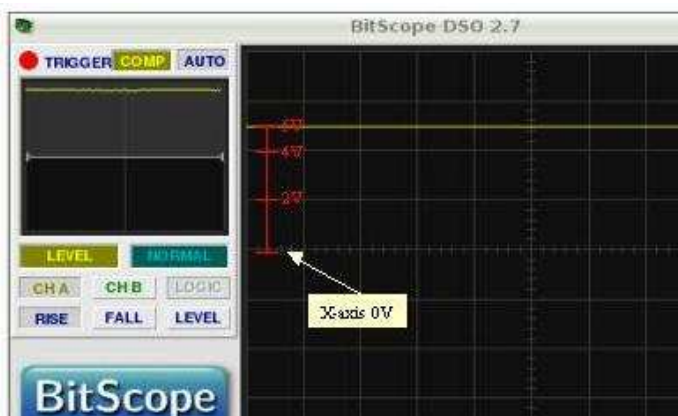

Fig. 4: Measuring +5V between the Raspberry Pi GPIO pins 2 and 6.
Look at the main screen of the BitScope DSO (1). The x-axis is the line in the middle and has small vertical lines to sub-divide each square. This is our 0V line. But our yellow beam is in the middle of the third square above the x-axis. Because we know there is a voltage of 5V between pin 2 (the plus pole) and pin 6 (the minus pole), and we set the channel control to 2V per Div, so the horizontal line indicates exactly this voltage. In Fig. 4 I have inserted an extra scale in red on the y-axis to help you interpret the screen.